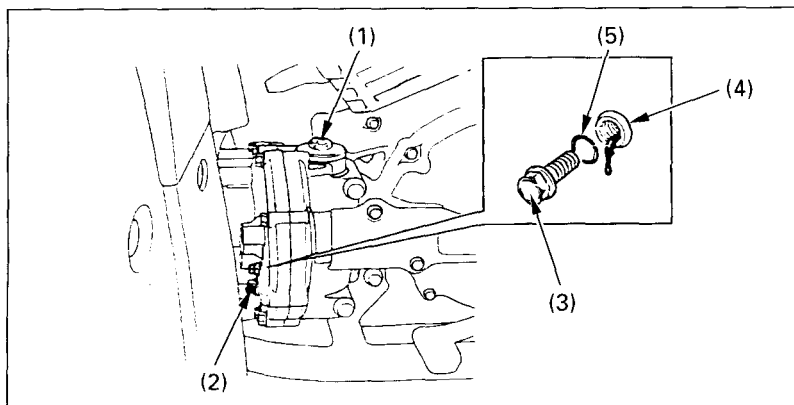

Fig. 4-14
1. To drain the oil, first place an oil drain pan under the oil drain plug (Fig. 4-14).
2. Remove the oil filler cap (1) and the drain plug (2).